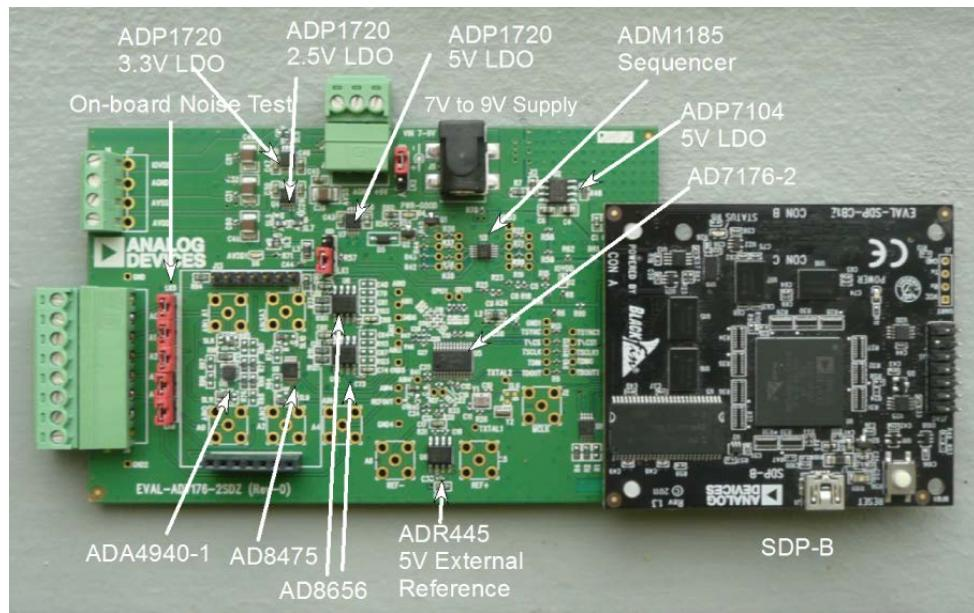

Figure 2. Hardware Configuration—Setting Up the EVAL-AD7176-2SDZ
2. Connect the EVAL-SDP-CB1Z board to the EVAL-AD7176-2SDZ board as shown in Figure 2.
3. Apply an external voltage in the range of 7 V to 9 V to the J4 or J5 connector of the EVAL-AD7176-2SDZ board, as shown in Figure 2 (see Table 3 for more information). This provides the power supply for the board.